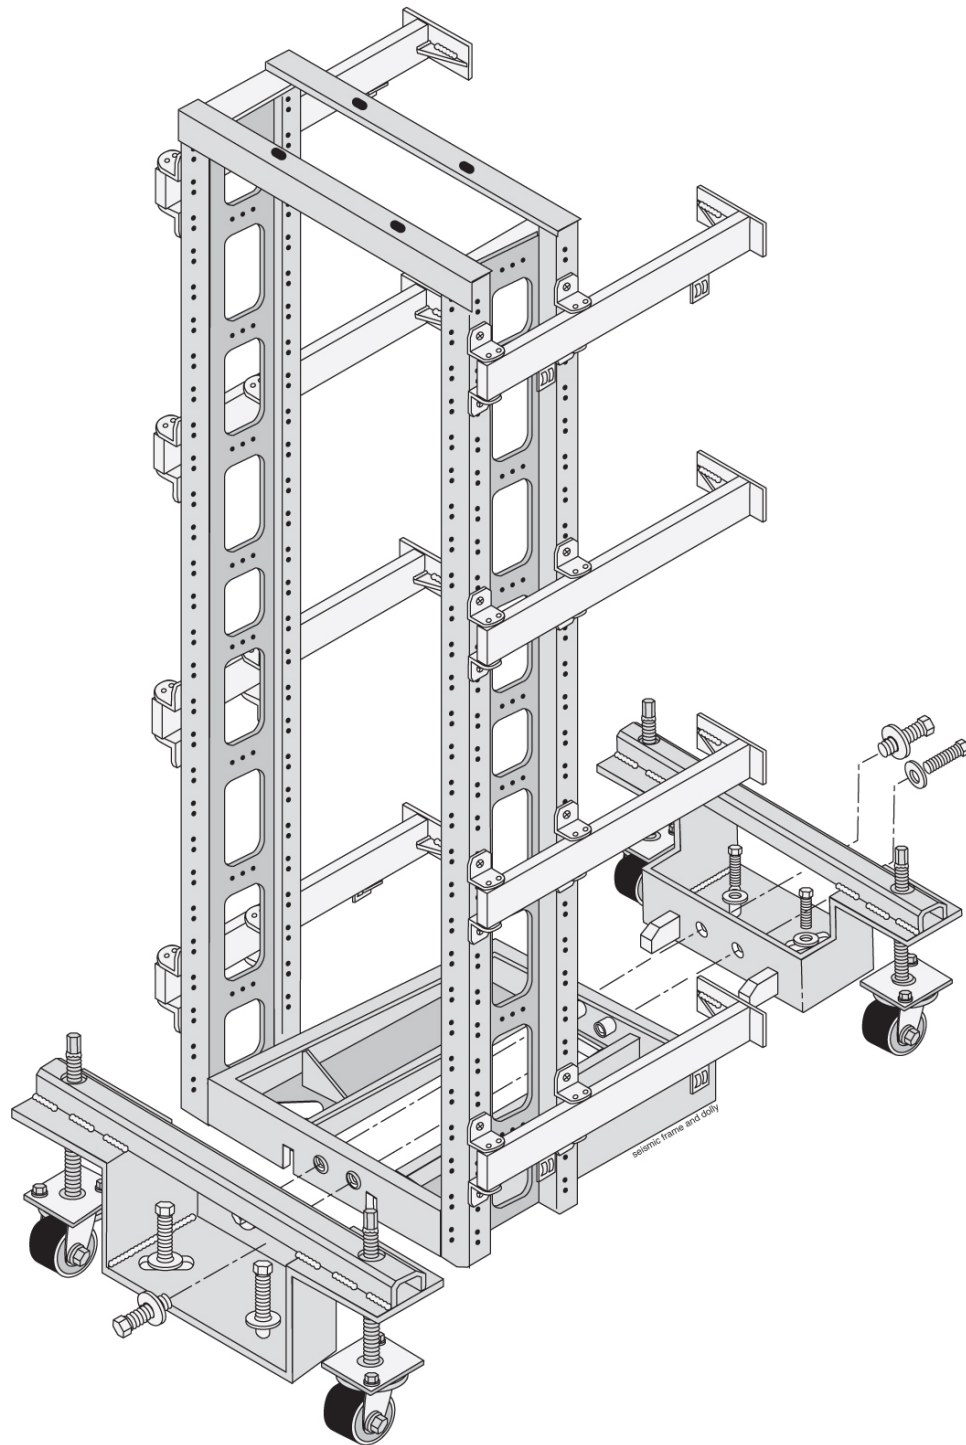

**Figure 12: Heavy Duty Frame Dolly**
10. At the correct site location, turn the threaded rods counter clockwise to lower the frame by raising the wheels of the dolly. Again two technicians must turn the threaded rods at the same time avoid tilting. Refer to Figure 12: Heavy Duty Frame Dolly for the location of the threaded rods attached to wheels.